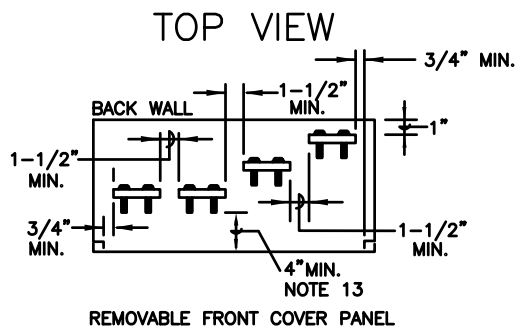

FIGURE 2
4. THE CUSTOMER WILL BE RESPONSIBLE TO DETERMINE THE SIZE, TYPE AND NUMBER OF CONDUCTORS TO UTILIZE WHEN THE TYPE OF SWITCHBOARD, AS SHOWN IN DRAWING 345 FIG. 2, IS UTILIZED. IT WILL BE CUSTOMER RESPONSIBILITY FOR SUBMITTING SWITCHBOARD APPROVAL INSPECTION LETTER FROM THE AGENCY HAVING JURISDICTION PRIOR TO IID CONSTRUCTION.
5. THE CUSTOMER WILL OWN, OPERATE AND MAINTAIN THE TERMINATION BRACKET USED AS POINT OF CONNECTION IN THE UTILITY PULL SECTION AS WELL AS THE CONDUCTORS THAT GO FROM THE TERMINATION BRACKET UP TO THE METER SECTION. ALSO, THE CUSTOMER WILL BE RESPONSIBLE FOR REPAIR THEM FOR ANY TYPE OF DAMAGE ON HIS OWN EXPENSES (SEE DRAWING 345 FIG. 2).
6. THE CUSTOMER WILL BE RESPONSIBLE FOR CALLING IID FOR TEMPORARY DISCONNECT PRIOR TO ANY TYPE OF OPERATION OR MAINTENANCE TO THE TERMINATION BRACKET INSTALLED IN UTILITY PULL SECTION, AS WELL AS ANY REPAIR, OPERATION OR MAINTENANCE TO THE CONDUCTORS THAT GO FROM THE TERMINATION BRACKET UP TO THE METERING SECTION (SEE DRAWING 345.2 FIG. 2).